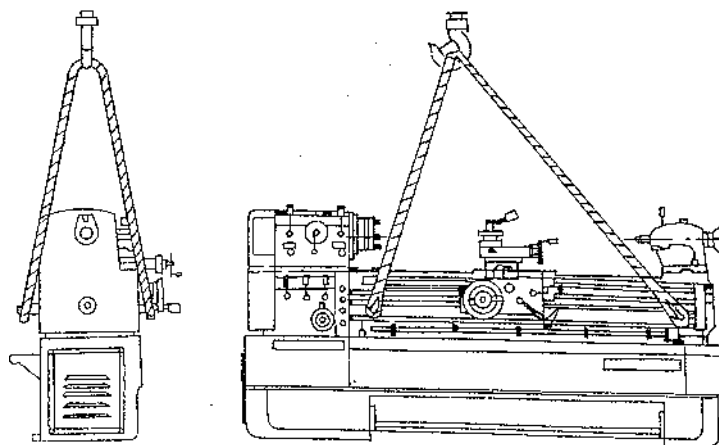

Fig.1 Machine Lifting
- (1) Use two steel bars 35mm (1 3/8) diameter, 760mm (30") (minimum) long. [should extend at least 100mm(4") each side of the lathe. Place and steady bars then sling as shown in Fig.1.
- (2) Use at least 1 1/2 diameter steel cable (or equivalent fabric) sling for lifting. Place wooden blocks or used carbon between the sling and the machine to prevent damage.
- (3) Before lifting, position the tailstock and carriage towards the tailstock end of the bed to help distribute and balance the machine weight.